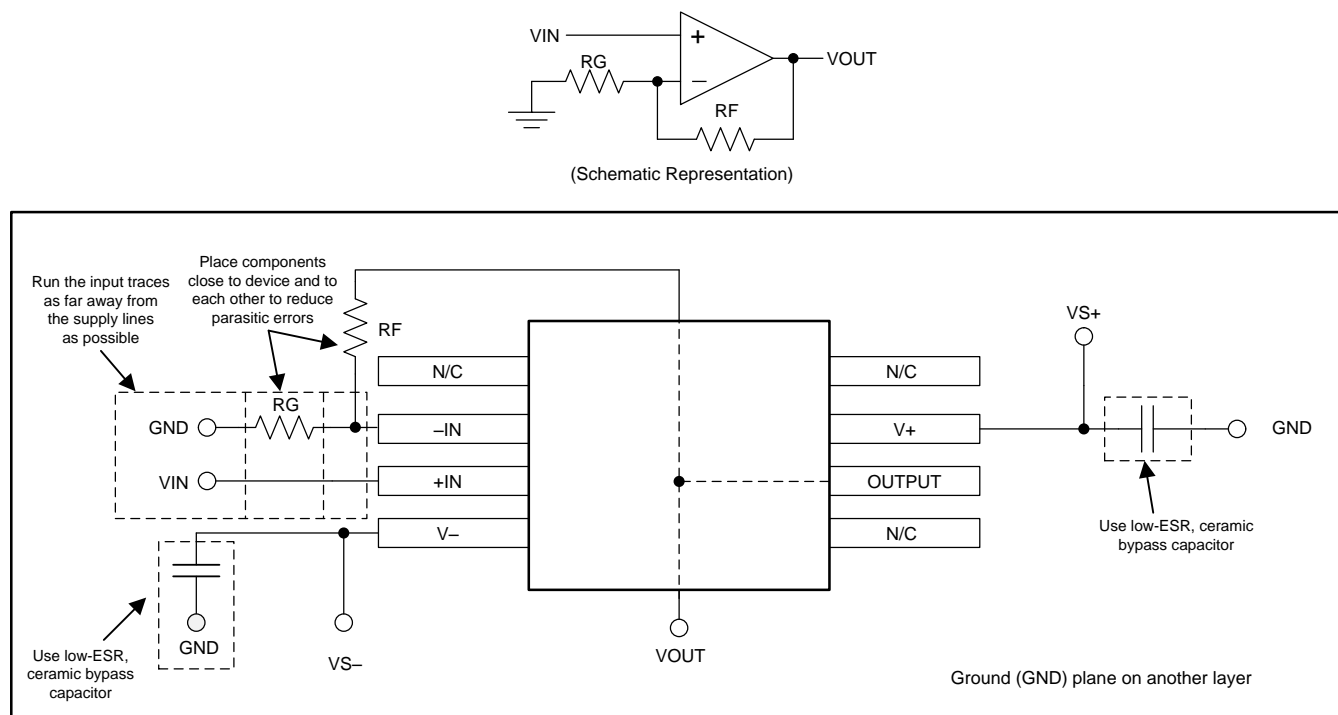

Figure 51. Layout Example
- Place the external components as close to the device as possible. As shown in Figure 51, keeping RF and RG close to the inverting input minimizes parasitic capacitance.